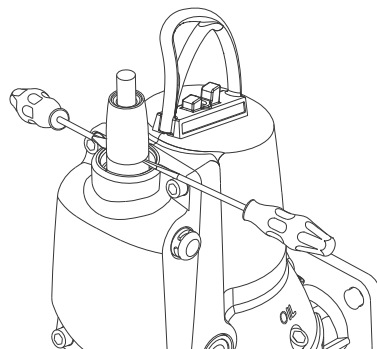

Fig. 8 Removing the supply cable
- Remove the locking ring (199) with hook spanner (*B*).
- Insert two screwdrivers (*E*) into the groove and prise the cable out of the cable entry. See fig. 8.